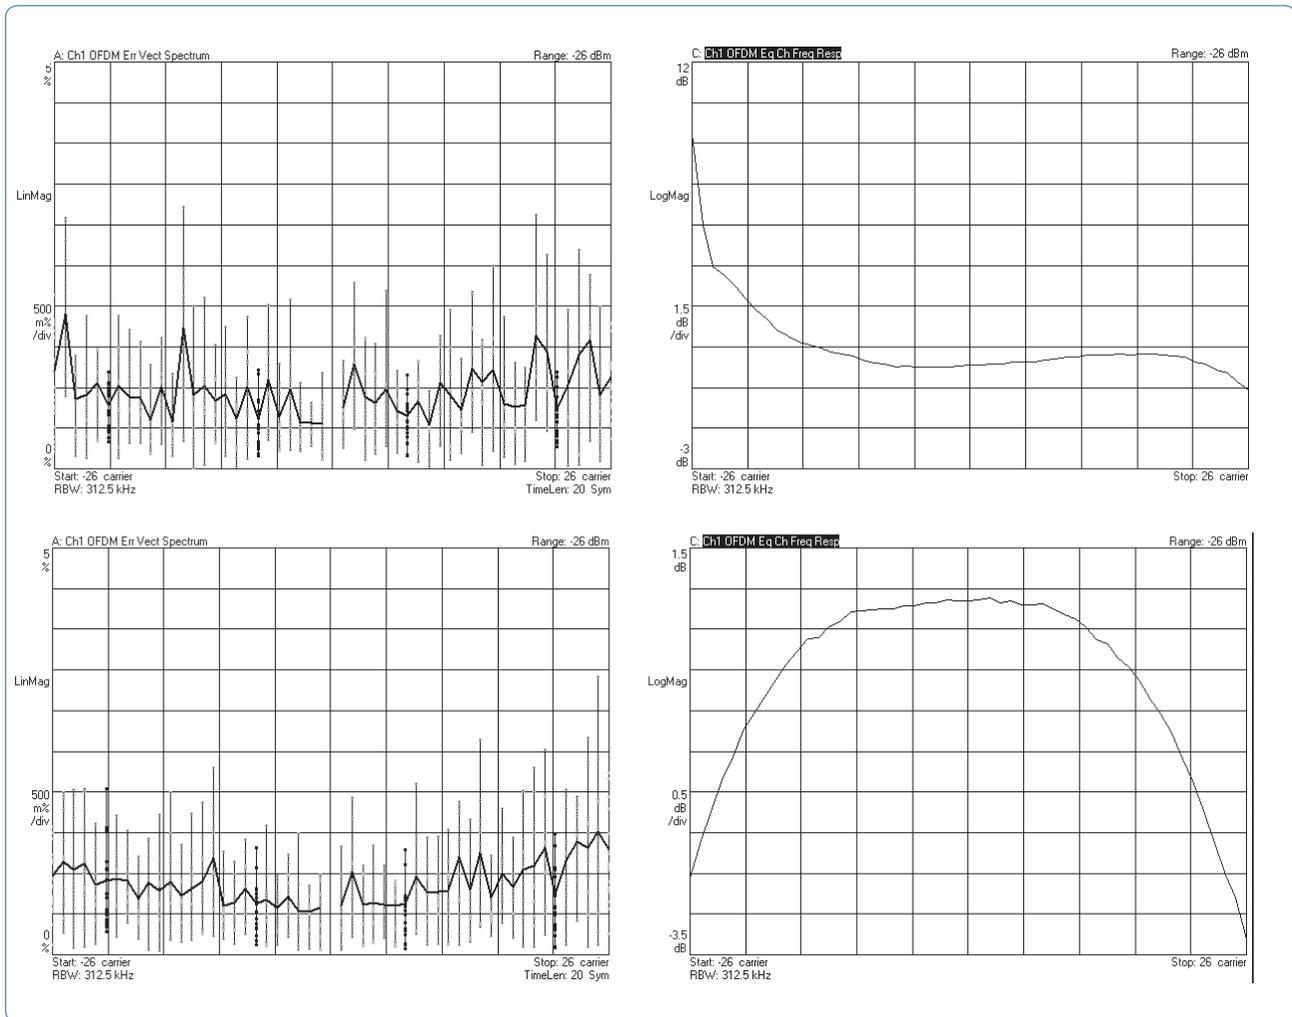

Figure 12. OFDM error vector spectrum and channel response before (top) and after (bottom) extended calibration¹
1. Figure 12 shows an example of the extended calibration built-in utility in the 89601A VSA software using a PSA with Option H70 and an 89611A VSA at 5 GHz. Similar or better results are possible with Option HY7.